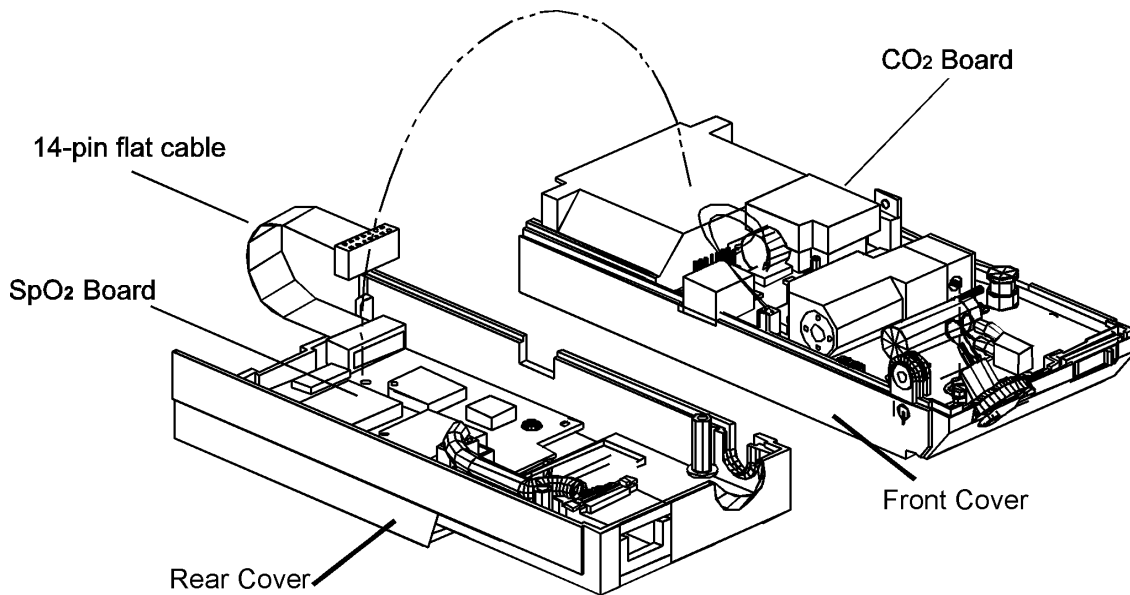

Figure 7-3: Separating Rear and Front Covers
4. Carefully lift the rear case cover up and remove the 14-pin flat cable from the CO₂ Board as shown in Figure 7-3: Separating Rear and Front Covers.